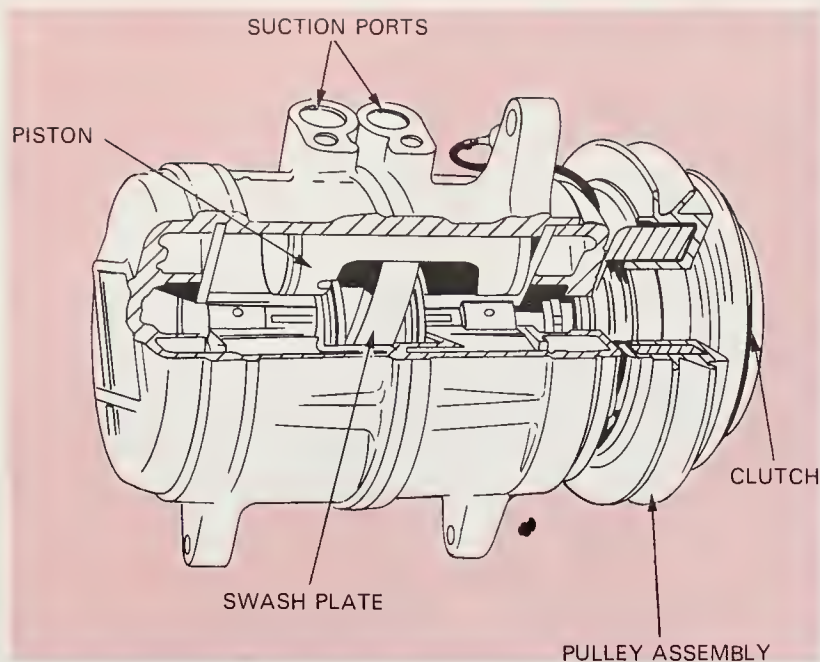

Fig. 71-16. Axial compressor has pistons moving lengthwise in body. Swash plate moves pistons. (Mitchell Manuals)
2. Axial, 4-cylinder type compressor, Fig. 71-16.